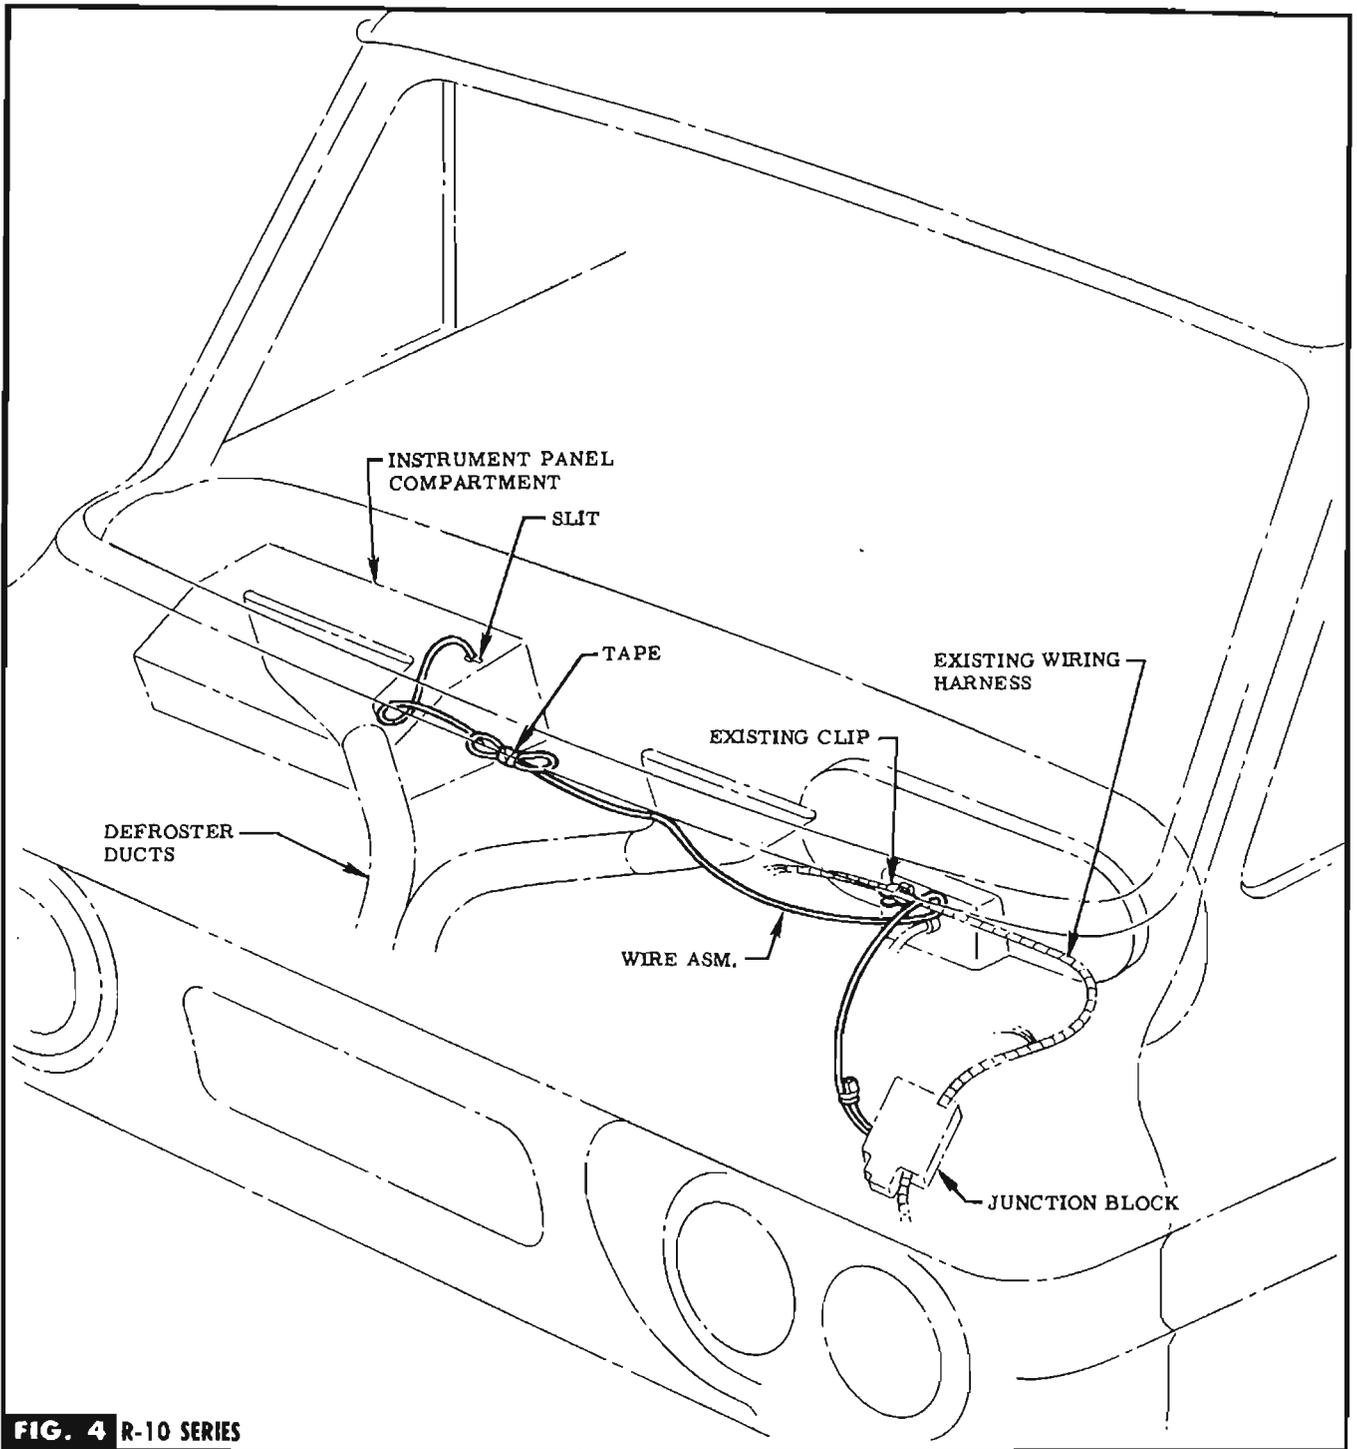

FIG. 4 R-10 SERIES
STEP 1c ROUTE WIRE TERMINAL THRU SLIT IN UPPER LEFT HAND CORNER OF INSTRUMENT PANEL COMPARTMENT & THRU HOLE IN UPPER LEFT SIDE OF COMPARTMENT OPENING. SEE FIG. 4 & VIEW C, FIG. 2.
HARNESS ALONG SIDE OF EXISTING CLIP. SEE FIG. 4.
STEP 5c LOOP & TAPE EXCESS WIRE. SEE FIG. 4.